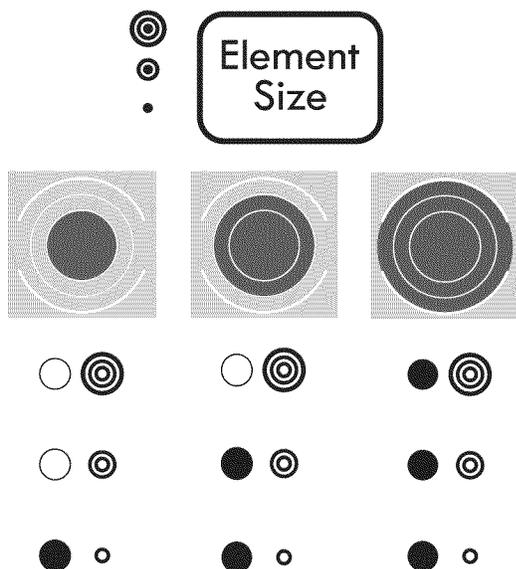

Figure 9: Element Size Selector-Single, Double, Triple
Use the **Element Size** key (Figure 9) to select which portions of the expandable element are needed for heating. The expandable element size may be changed anytime the element is ON. This cooktop also has a double element on the right front to accommodate two sizes of cookware.
3. Press **Element Size** key and toggle to select the single, double, or triple (if available) expandable element size setting. (Figure 9)